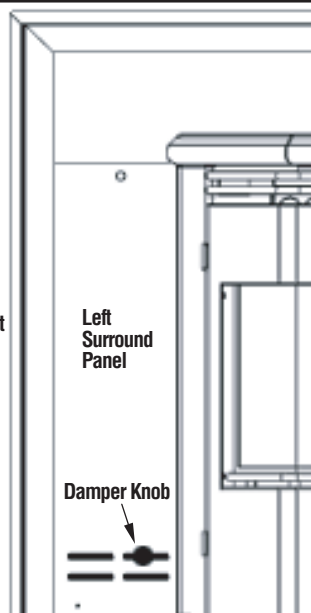

Figure 11 - Damper Adjustment, Inserts
9. Reach behind left surround panel and rotate damper arm so that end is inserted into the upper right hand slot of left surround panel (see **Figure 11**).
Install damper rod knob as illustrated (see **Figure 11**) and explained on this page (see *Installing Surround Assembly – Profile 30 INS-2*).
The damper knob should be positioned in the center of the oblong slot for the average installation (see **Figure 11**). If more or less air is needed, then adjust in 1/4" increments until optimum combustion air flow is achieved (see *Damper Adjustment Guidelines* on **Page 21**).